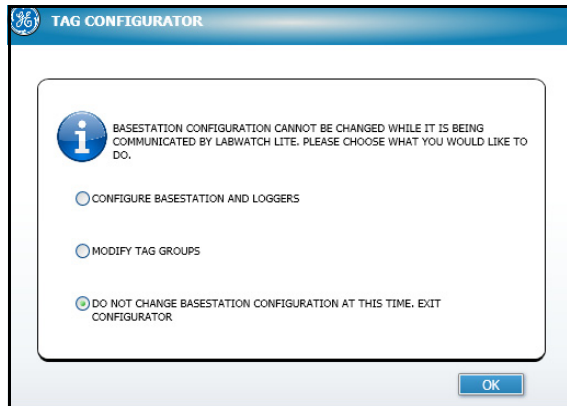

Figure 108: Tag Configurator Window
2. Click on the **Configurations** tab and then on the **Tag/Group Config** option. The Tag Configurator window (Figure 108 below) opens.